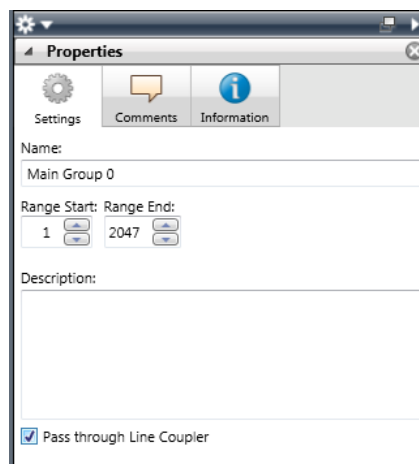

Figure 158: Setting the Pass through Line Coupler option.
1. Enable the switch **Pass through line couplers** option in the ETS4 group address or group range options, as shown in Figure 158. If this switch is set, the couplers will forward the group addresses towards the main line.